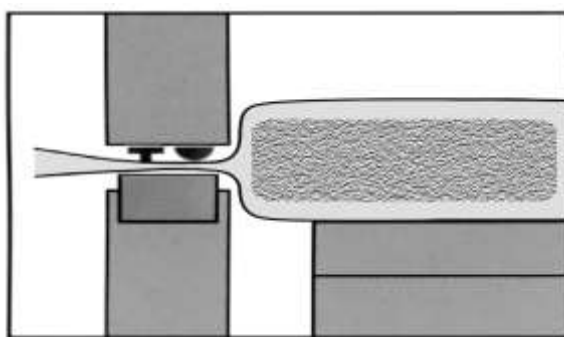

Fig.2
- Put the bag containing the product in the vacuum zone. The product inside the bag should be as close to the heat-sealing bar as possible (Fig.2), to improve the appearance and ensure the tight envelopment of the product.